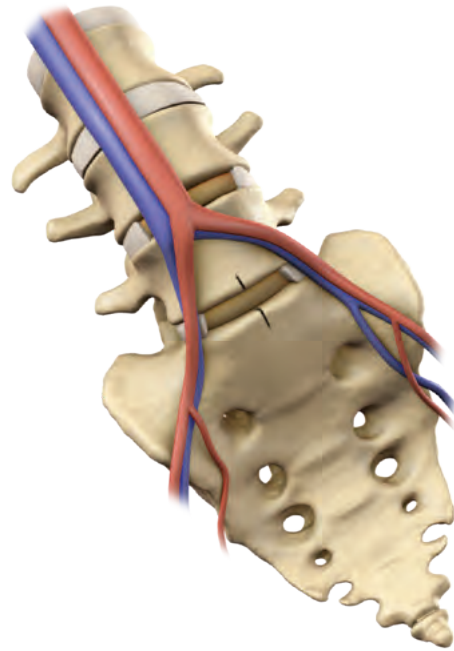

Figure 2:
- Following the placement of the preferred interbody device, prepare the vertebral bodies by removing any prominent osteophytes to allow improved placement of the Trinica Anterior Lumbar Plate. Identifying and marking the midline of the vertebral body will help you orient the plate in the center of the vertebral body, where applicable. Marking the midline is recommended (Figure 2).